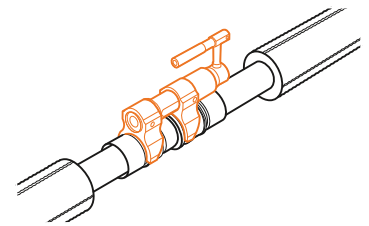

Fig. B10.3.7
10. Assemble the press tool with the appropriate press jaws (Fig. B10.3.7).